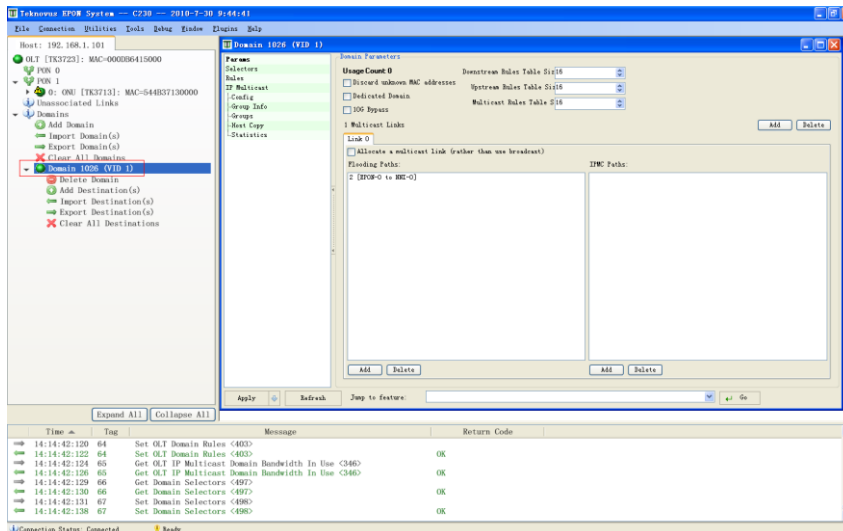

Figure 7-3 Domain Parameter Modification
- 3) After creating the domain, the left control panel will display a newly created Domain; click Domain1026 and the right control panel will display the option of Domain parameter configuration shown in the Figure 7-3; modify the parameters according to the actual requirements.